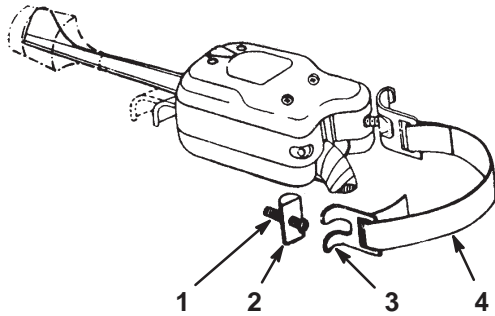

Figure 2
- D. Insert one end of the strap through the clip of the signal controller and bend the strap 1 inch (25 mm) from the end. Catch the clip under the anchor on the controller (Fig. 2).